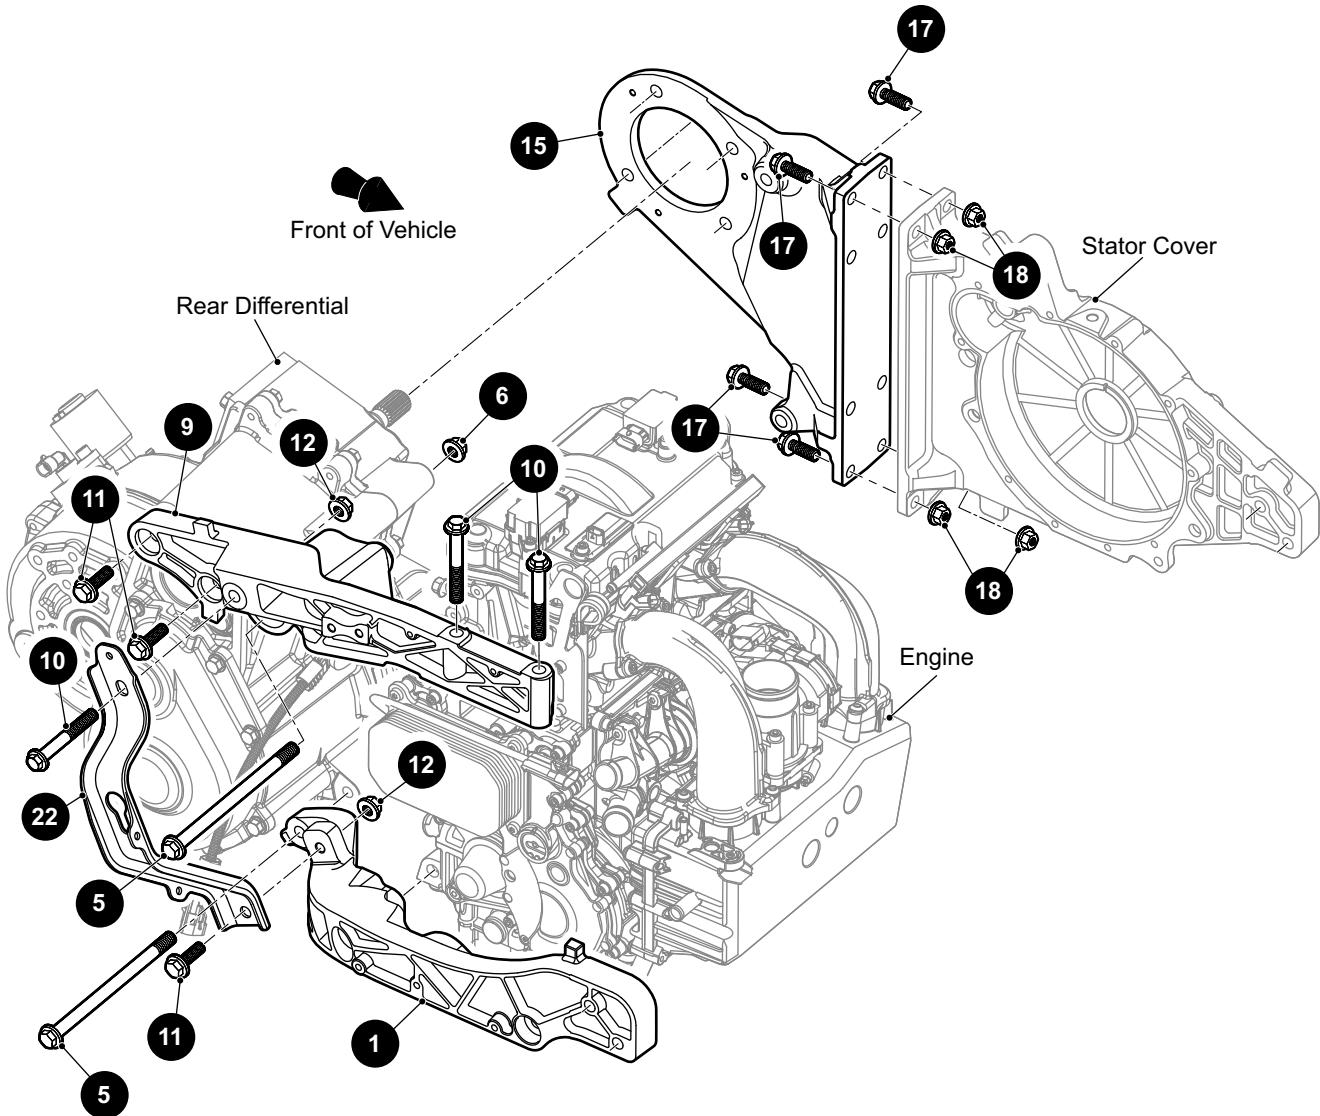

Fig. 16 Rear Differential Mounting Brackets
4. Remove the speed sensor (Ref. Fig. 16).
18. Remove the four bolts (17) and nuts (18) that secure the driver side differential bracket (15) to the engine stator cover (See Fig. 16)(See Fig. 22)(Ref. Fig. 25).
19. Remove the bolt (25), washer and nut that secure the differential to the rear engine mount (See Fig. 16)(Ref. Fig. 26).